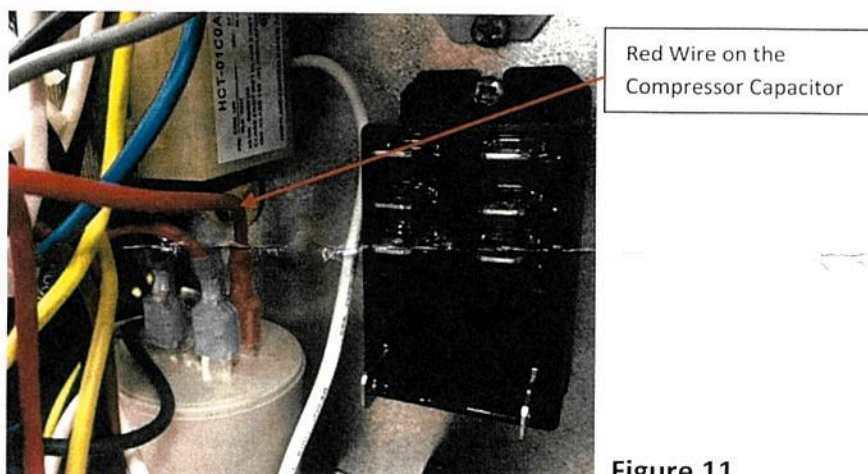

Figure 11
Step 11 – Disconnect the red wire on the cylindrical compressor capacitor and replace it with the long red wire from the kit (Figure 11).